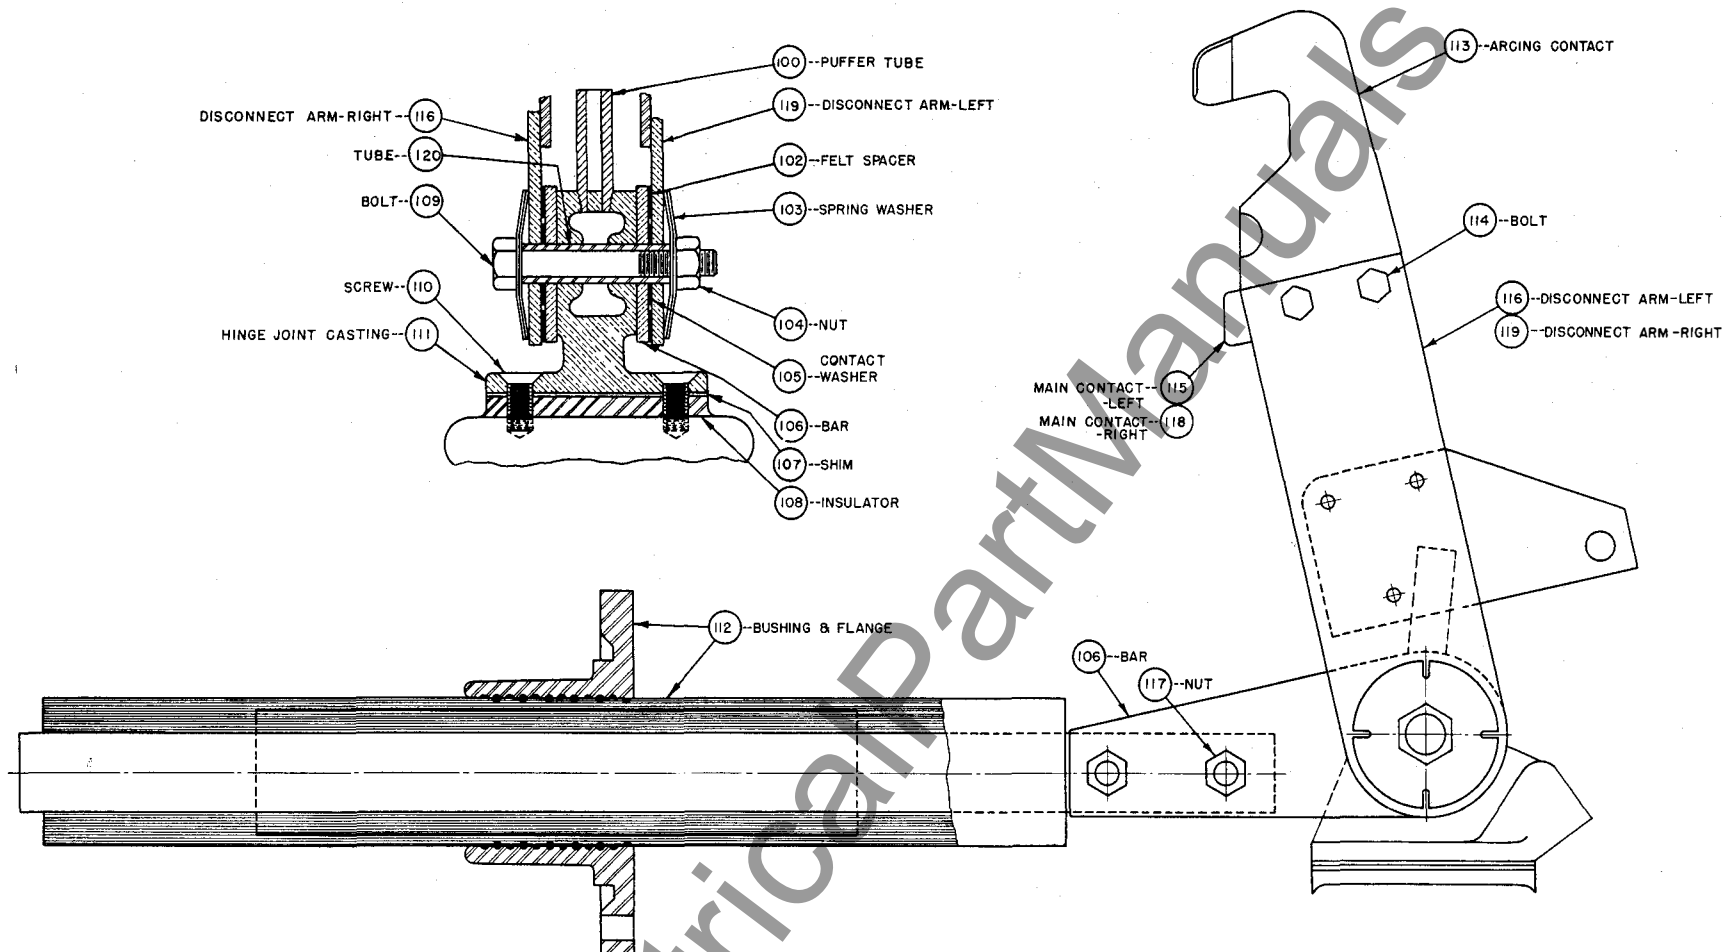

FIG. 7
6. Remove disconnect arms as a unit by removing bolt 7-109. Refer to Fig. 7. Carefully inspect all contact surfaces in hinge joint. Contact washer 7-105 and adjacent surfaces should be clean and free of roughness